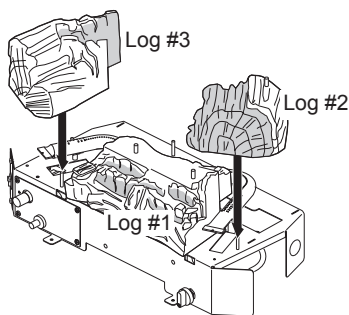
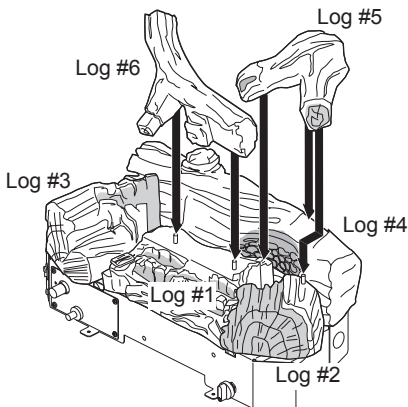

Figure 20 - Installing Log #2 (Right) and Log #3 (Left) (Model CSG3924NR Shown)
Figure 22 - Installing Log #5 (Right) and Log #6 (Left) (Model CSG3924NR Shown)
2. Place log #2 to the right of log #1. Log #2 will wrap around right end of rear burner and sit on log alignment screw (see Figure 20).
3. Place log #3 on left side of base and onto alignment screw to right of rear burner (see Figure 20). Log #3 will wrap around left end of rear burner.
- Place back of log #5 on notch in log #4 (as shown in Figure 22), across back part of log #1 and onto pin on log #2 (see Figure 20, page 18 and Figure 22).
- Place log #6 onto two pins on log #1 (ember bed) and rest back of log #6 on back log #4 (see Figure 22).